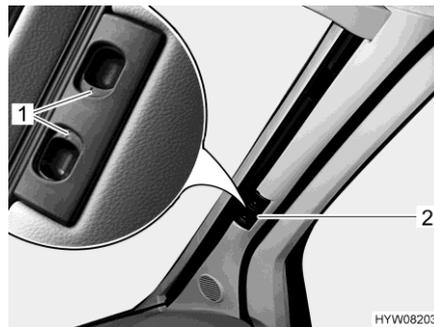

Fig. 109 Roman shade (windscreen)
- Press the release handles (Fig. 109,1) and hold them down.
- Use the handle (Fig. 109,2) to pull the Roman shade for the windscreen towards the centre of the window.
- Use the handle (Fig. 109,2) to pull the two halves of the Roman shade for the windscreen outwards as far as they will go. As you do so, lift the handle up as high as the locking recess.
- Let go of the release handles (Fig. 109,1) and let them engage.